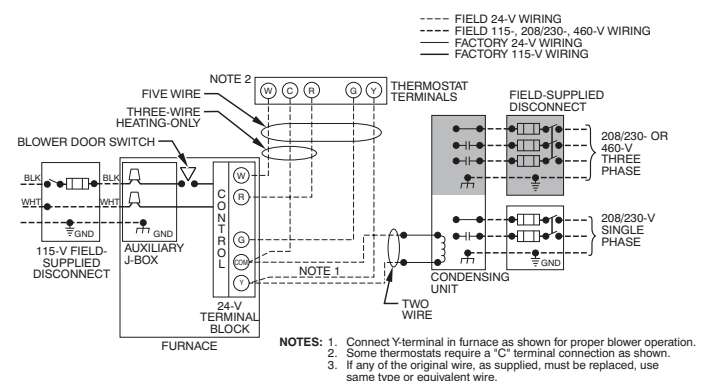

Fig. 33 – Typical Single-Stage Wiring Diagram
See Fig. 33 for field wiring diagram showing typical field 115-V wiring. Check all factory and field electrical connections for tightness. Field-supplied wiring shall conform with the limitations of 63°F (35°C) rise.
6. Connect power cord power and neutral leads to furnace power leads as shown in Fig. 33.
5. Connect field power and neutral leads to furnace power leads. as shown in Fig. 33.
Make field 24-v connections at the 24-v terminal strip. See Fig. 38. Connect terminal Y as shown in Fig. 33 for proper cooling operation. Use only AWG No. 18, color-coded, copper thermostat wire.